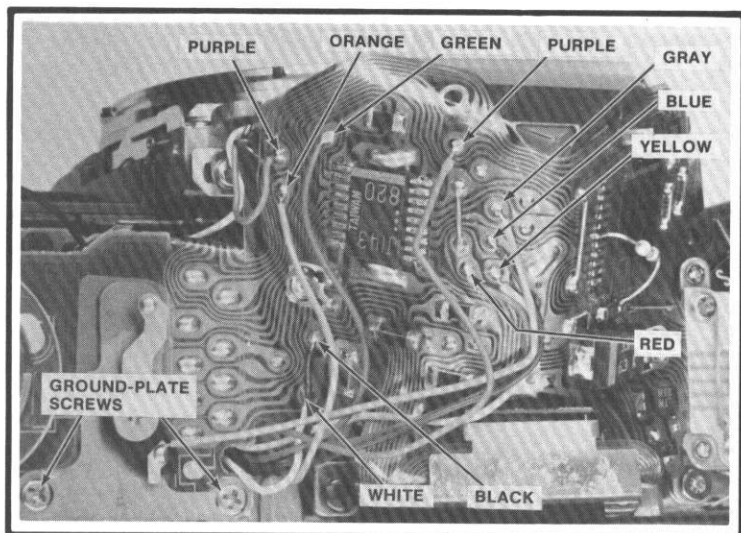

Figure 38
5. Unsolder the wires indicated in Fig. 38 from the top of the flex.
7. Remove the battery-test ground plate with the battery-test switch (2 screws holding the ground plate), Fig. 38.
15. Resolder the wires, Fig. 38, and test the operation.